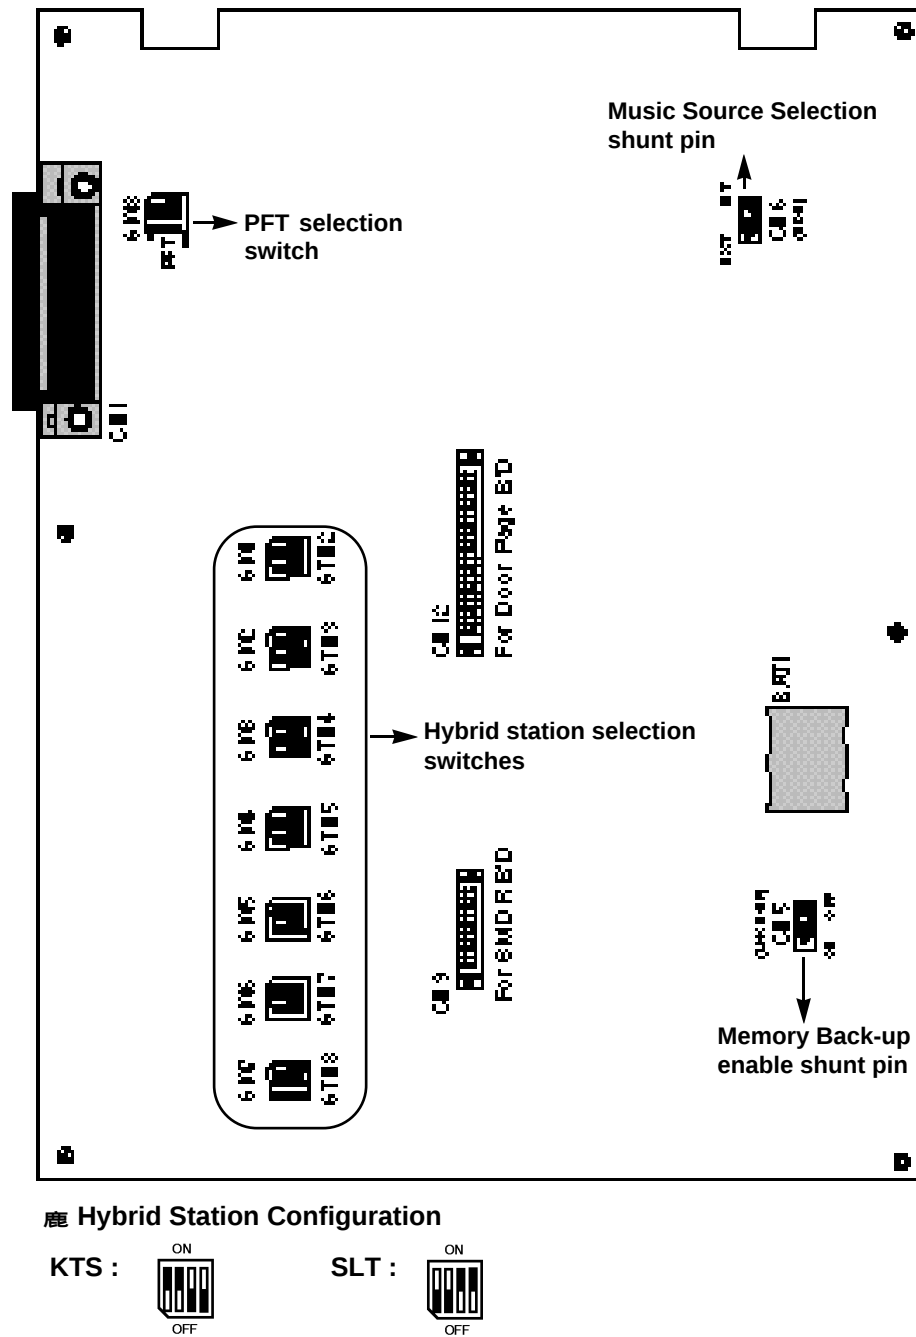

FIGURE 6-3 NX-308 KSU SWITCH LOCATIONS
6.1.1 NX-308 - Related Switch Location (FIGURE 6-3)
6.2.1 NX-308 - Related Switch Location (FIGURE 6-3)